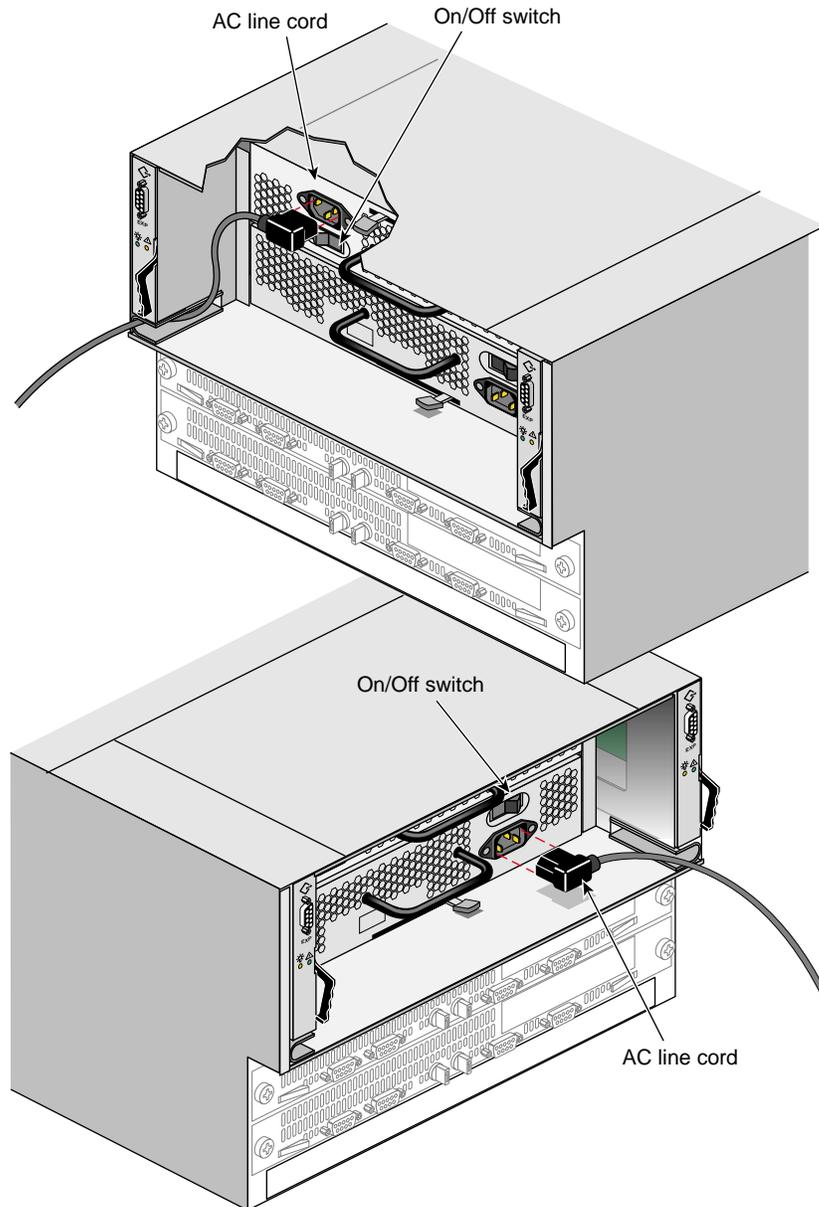

Figure 4-11 Turn Off Power and Unplug Cord from the Supply
2. Unplug and remove the supply’s AC line connector (see Figure 4-11).